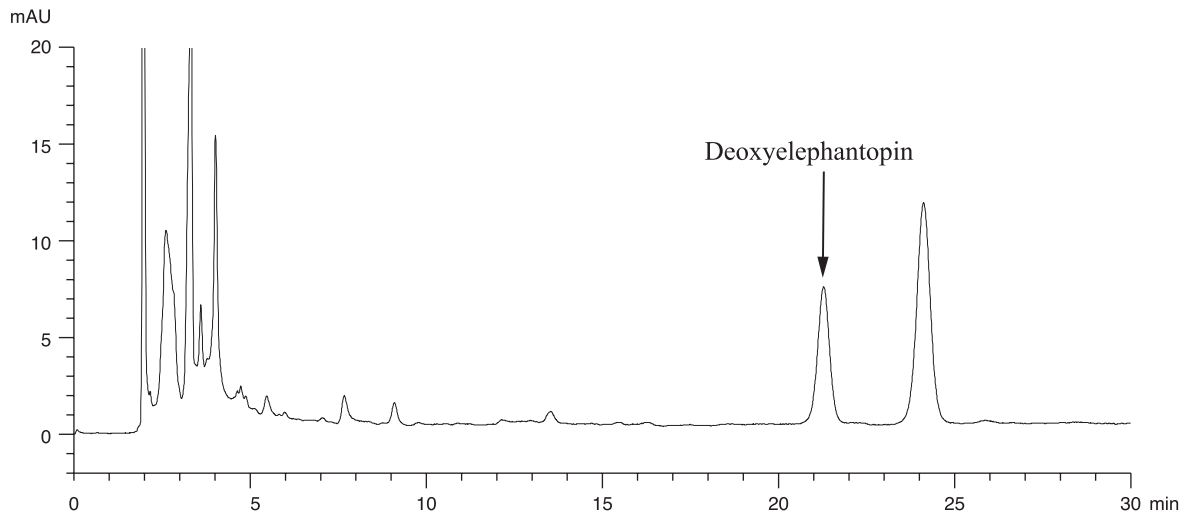

Figure 7 A reference assay chromatogram of Elephantopi Herba extract
The *R* value between deoxyelephantopin peak and the closest peak in the chromatogram of the test solution should not be less than 1.5 (Fig. 7).
Inject 5 μL of the test solution into the HPLC system and record the chromatogram. Identify deoxyelephantopin peak (Fig. 7) in the chromatogram of the test solution by comparing its retention time with that in the chromatogram of deoxyelephantopin Std-AS. The retention times of deoxyelephantopin peaks from the two chromatograms should not differ by more than 5.0%. Measure the peak area and calculate the concentration (in milligram per litre) of deoxyelephantopin in the test solution, and calculate the percentage content of deoxyelephantopin in the sample by using the equations as indicated in Appendix IV (B).